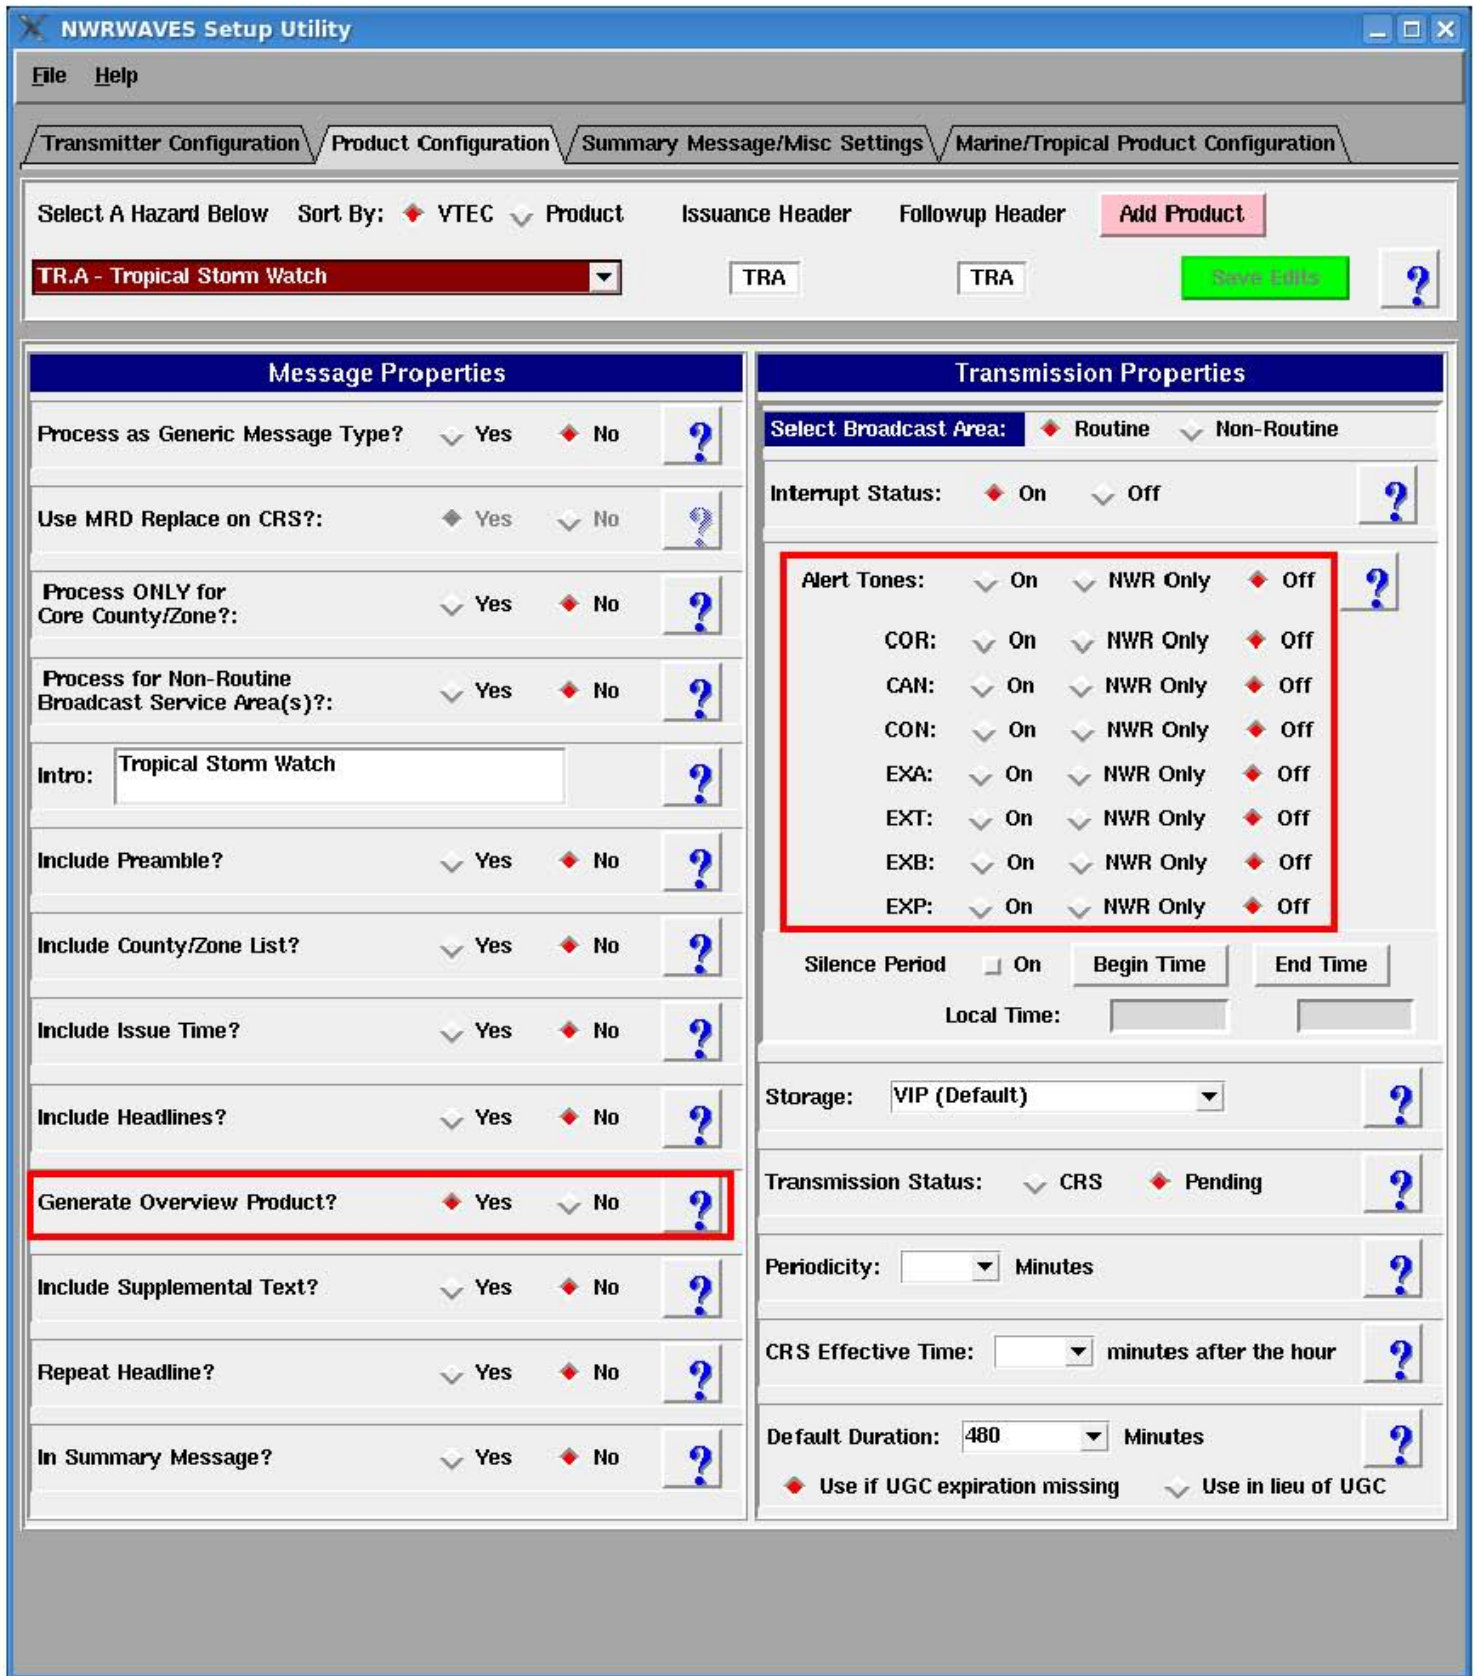

Figure 10 – The “Generate Overview Product?” button is set to “Yes” by default and Alert Tones set to “Off” for tropical watches (not warnings).
- 1) By default, the overview product (OVR) will be generated for each transmitter for the HLS (see Figure 10 which is set to YES) - set for each hazard it contains (HU.A/W, TR.A/W, TY.A/W)**